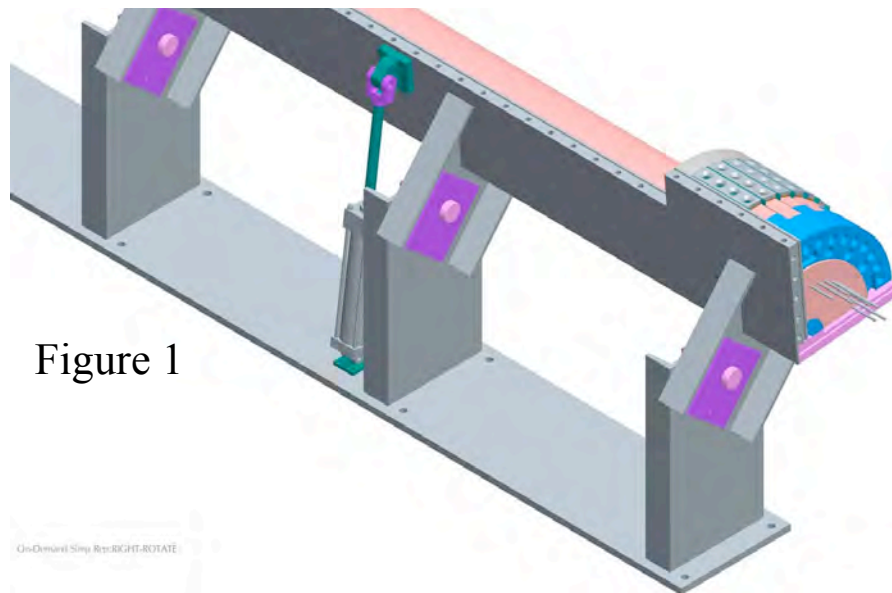

Figure 1
- Assemble conductors into 9 turn quadrants and VPI [Figure 1]